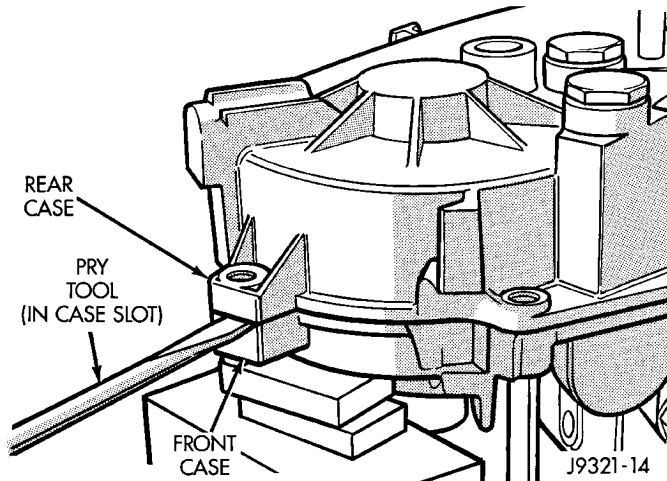

Fig. 25 Loosening Rear Case
- (3) Loosen rear case with flat blade screwdriver to break sealer bead. Insert screwdriver blade only into notches provided at each end of case (Fig. 25).